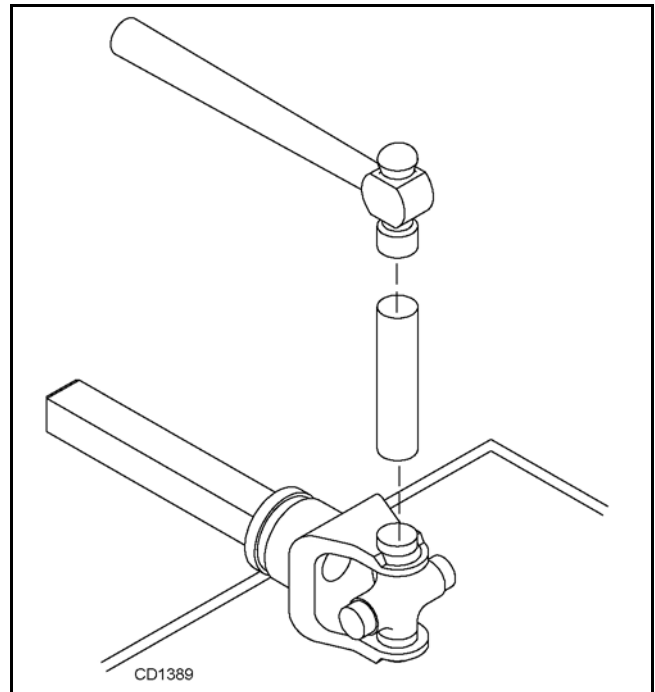

Figure 21.
3. Seat cups by placing a drift or socket (slightly smaller than the cup) on cup and rap with a hammer. See Figure 21. Install snap ring and repeat on opposite cup